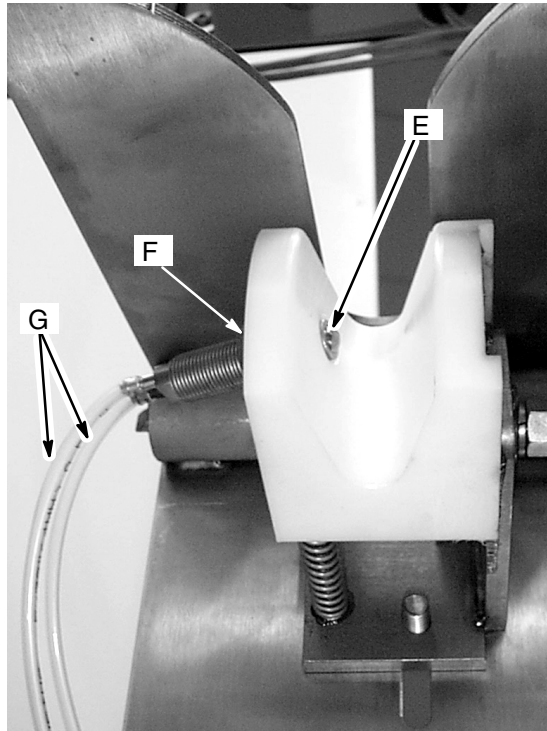

Fig. 8 Switch (E) senses when gun is in the box.
Loosen the jam nut (F). See Fig. 8. Remove both tubes (G). Thread the switch (E) in or out until the end of the switch is even with the plastic gun guide and the ball of the switch extends out about 1/16" (1.6 mm).